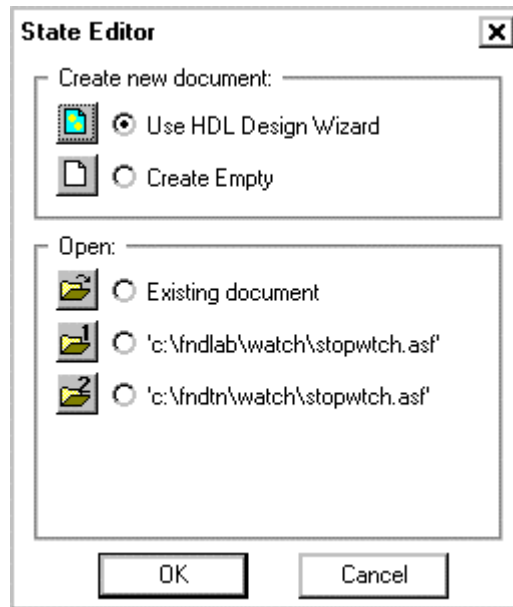

Figure 1. The State Editor dialog box.
- 2) Once the State Editor has started, the “**State Editor**” dialog box will open (see Figure 1). Click on the “**Use HDL Design Wizard**” bubble and click on “**OK**”.